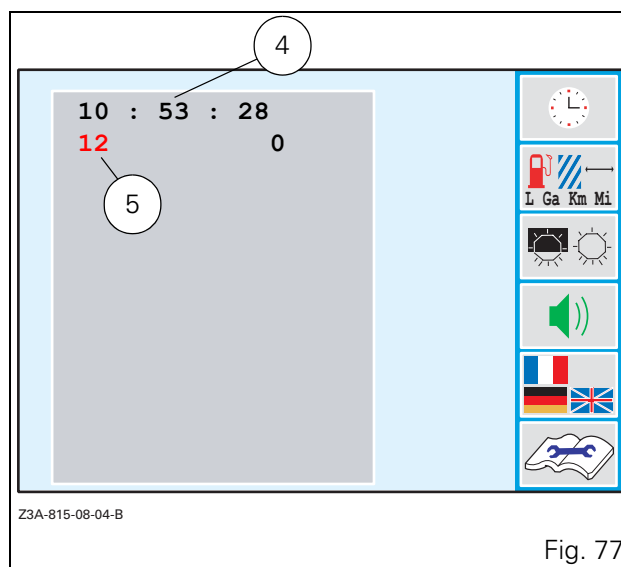

Fig. 77
- Press the key <<1, (the window (Fig. 77) is displayed). The current hours, minutes and seconds are displayed in black (4). The red hour display (5) indicates that these can be set.